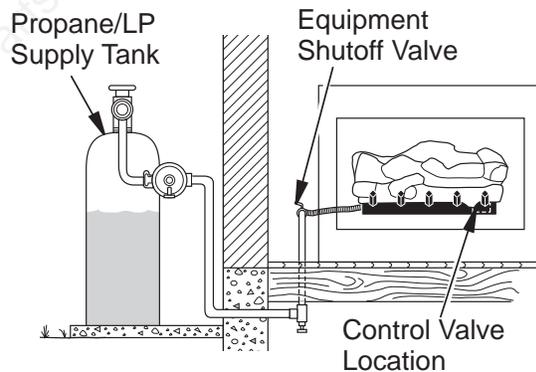

Figure 16 - Checking Gas Joints (Propane/LP Only)
3. Check all joints from gas meter to equipment shutoff valve for natural gas or propane/LP supply to equipment shutoff valve for propane/LP (see *Figure 16 or 17*). Apply noncorrosive leak detection fluid to all joints. Bubbles forming show a leak.
4. Check all joints from equipment shutoff valve to gas valve (see **Figure 16 or 17**). Apply noncorrosive leak detection fluid to all joints. Bubbles forming show a leak.